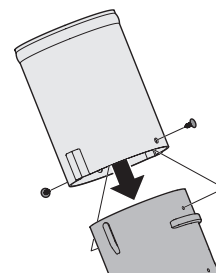

Figure 25
5. Install the chute tube extension onto the discharge chute elbow by lining up the tabs and sliding the adapter over the discharge chute elbow. Secure the chute adapter by installing the two ratchet clips (726-3046) included in hardware pack 689-02201 in the holes provided. See Figure 25.